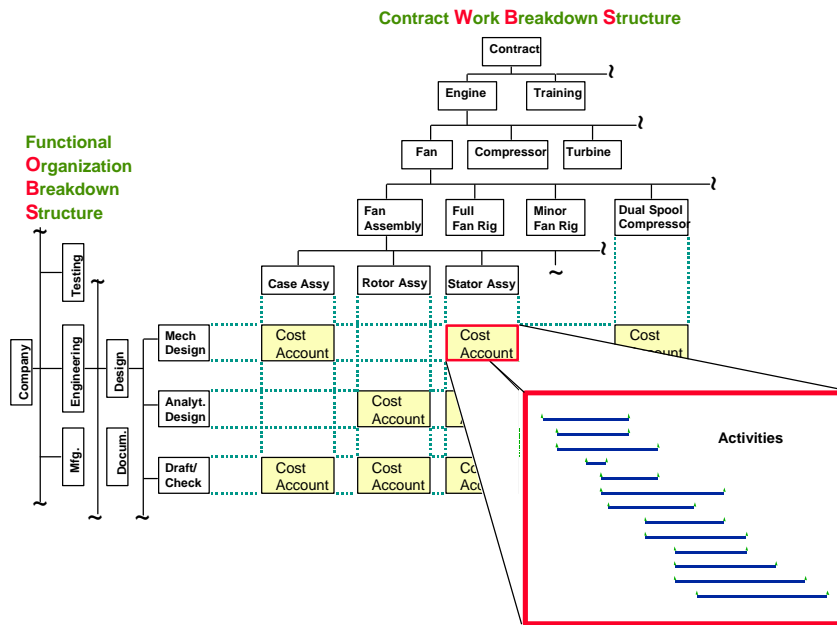

FIGURE 3 - WORK BREAKDOWN STRUCTURE
which each lower level element rolls into one and only one element at the level above it. The bottom level of the WBS should be the activities of the project. Figure 3 illustrates this. The key here is that each element has a responsible individual identified with it and each element represents a part of the project that someone or more people are interested in monitoring.
While this personal responsibility might bring to mind an Organizational Breakdown Structure (OBS), the WBS should not be confused with an OBS. Either structure can function as the framework for analyzing the project performance. However, an OBS is generally employed in a matrix organization where the functional management of the organization wants to analyze the performance of their functional unit on the project. The WBS is organized along the component lines of the project. For example, the project team member who is responsible for the Fan Assembly in Figure 3, has components (cost accounts and activities) in several engineering disciplines within the OBS. On the other hand, the Mechanical Design Manager in the OBS is interested in all the mechanical elements of all project components.
Step 2: Identify The Activities The second step is to identify the activities of the project. The WBS provides the framework for identifying the project components. As illustrated in Figure 3, each activity should be assigned to one element in the WBS. The completion of this step will produce the project schedule of activities, typically in a CPM network.